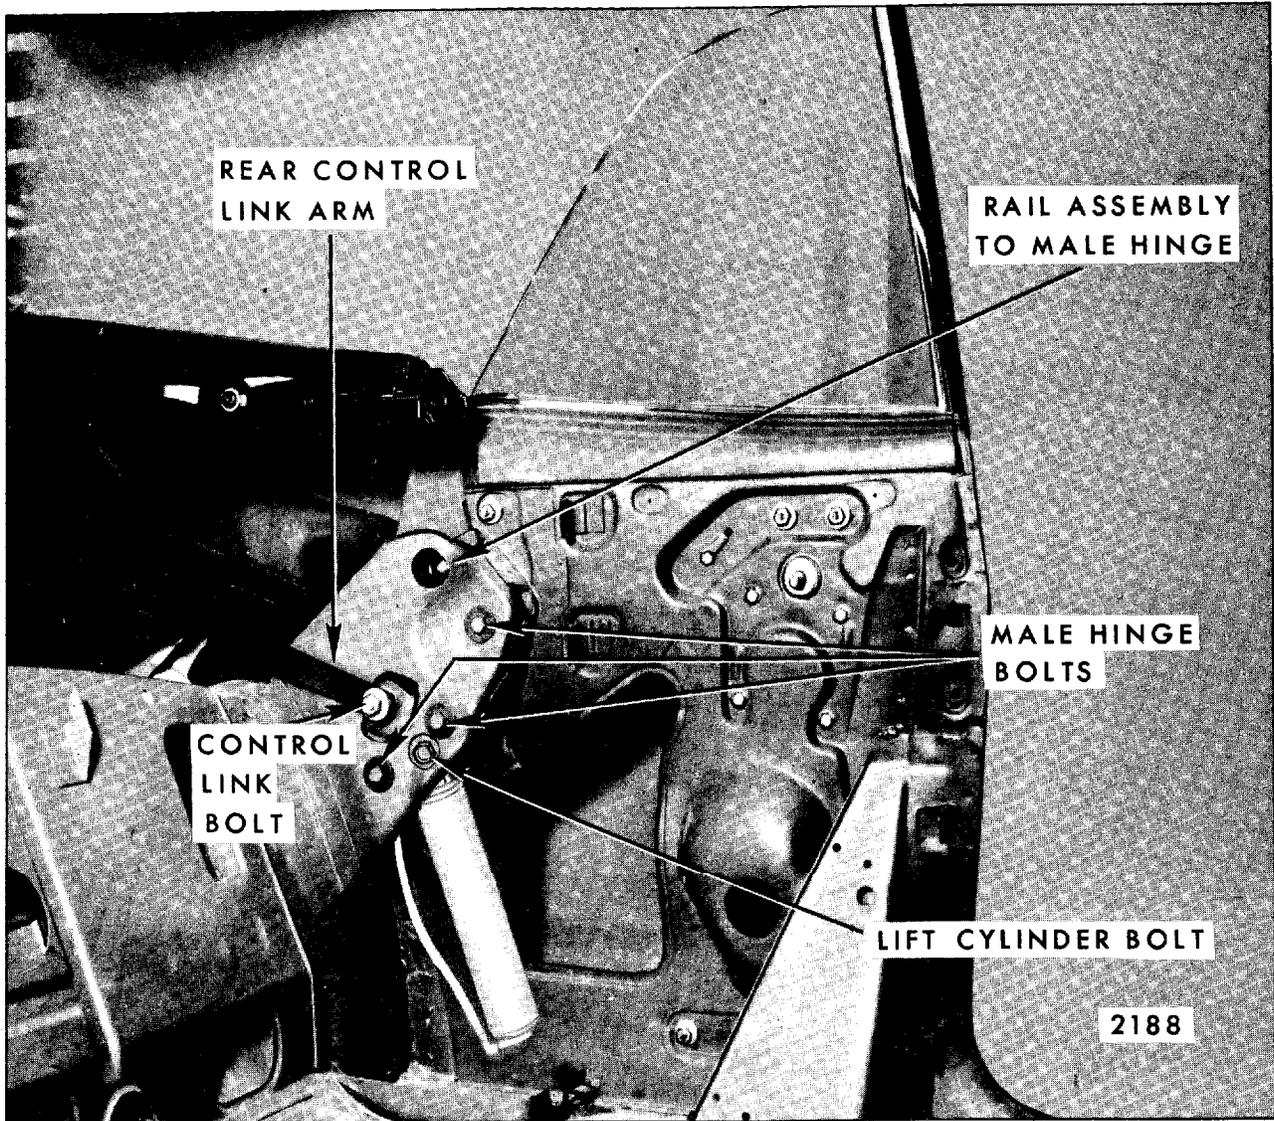

Fig. 6-81—"A" Body Convertible Top Linkage Attachments
- b. Loosen one bolt securing control link sufficiently to permit adjustment of link (See Fig. 6-81).
- b. Loosen male hinge assembly (Fig. 6-81).
- b. Loosen male hinge assembly (see Fig. 6-81).
- c. Rotate male hinge forward to lower stack height or rearward to raise stack height (Fig. 6-81).
NOTE: When rotating male hinge be certain position of rear rail to male hinge is maintained (Fig. 6-81).
2. Male hinge assembly misaligned.	Adjust male hinge assembly rearward. (Fig. 6-81).